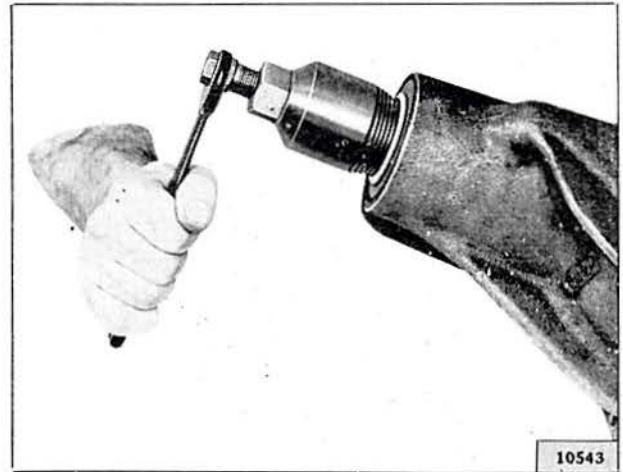

FIG. 244—REMOVING PINION SHAFT OIL SEAL
i. Remove the pinion shaft oil seal. Use Puller, Tool W-251 as shown in Fig. 244.